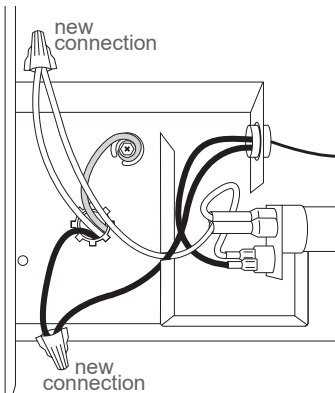

Figure 2
- B. for 120 volts, connect the neutral (white) supply wire to the white heater wire (Figure 2).